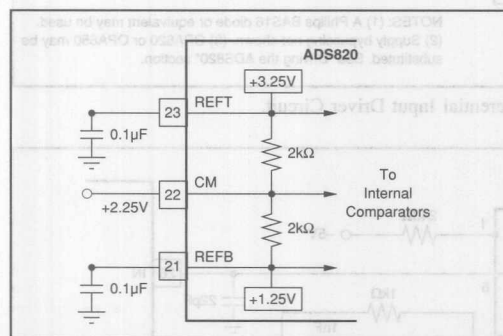

FIGURE 3. Internal Reference Structure.
The analog input of the ADS820 can be configured in various ways and driven with different circuits, depending on the nature of the signal and the level of performance desired. The ADS820 has an internal reference that sets the full scale input range of the A/D. The differential input range has each input centered around the common-mode of +2.25V, with each of the two inputs having a full scale range of +1.25V to +3.25V. Since each input is 2V peak-to-peak and 180° out of phase with the other, a 4V differential input signal to the quantizer results. As shown in Figure 3, the positive full scale reference (REFT) and the negative full scale reference (REFB) are brought out for external bypassing. In addition, the common-mode voltage (CM) may be used as a reference to provide the appropriate offset for the driving circuitry. However, care must be taken not to appreciably load this reference node. For more information regarding external references, single-ended inputs, and ADS820 drive circuits, refer to the applications section.